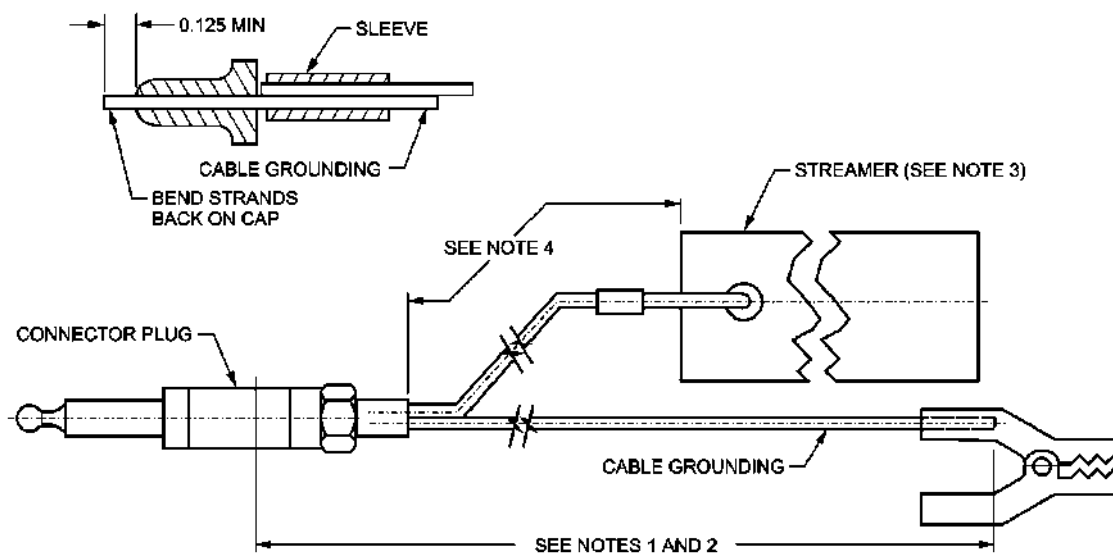
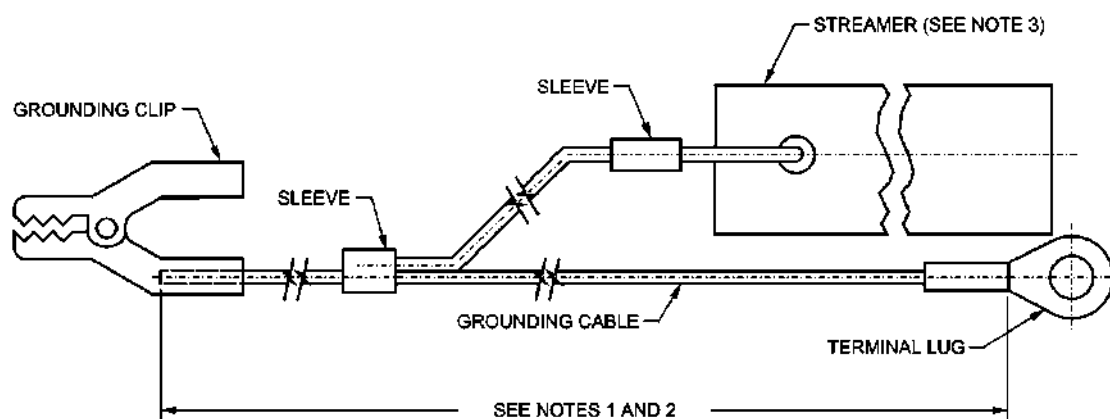
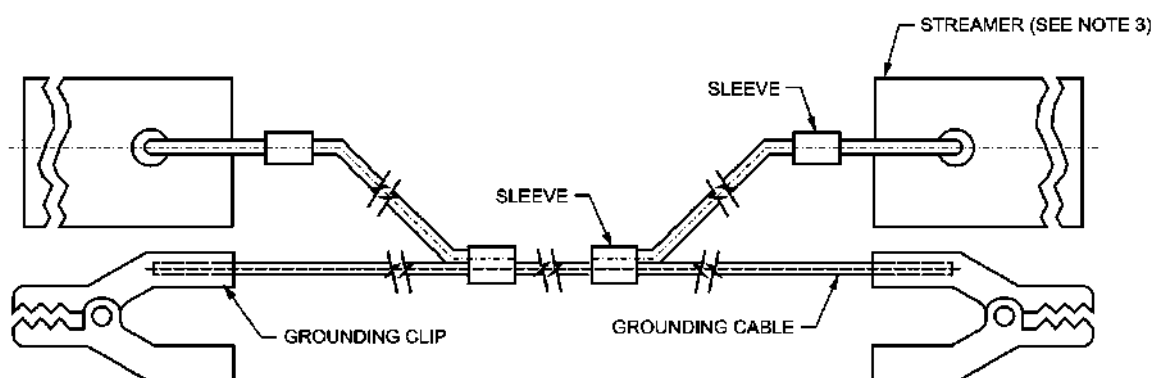

Figure 14-5 Safety Interconnection Lead (Configuration 2)
Figure 14-6 Safety Interconnection Lead (Configuration 3)
Figure 14-7 Safety Interconnection Lead (Configuration 4)
25. Any one of the configurations detailed in Figure 14-4, Figure 14-5, Figure 14-6 or Figure 14-7 may be used to earth the aircraft.
38. GSE used for dispensing fluids, (gases and liquids) except engine and hydraulic oil replenishing dollies, is to be fitted with interconnection hardware as detailed in Figure 14-4, Figure 14-5, Figure 14-6 or Figure 14-7. Specific interconnection hardware requirements for GSE dispensing flammable and non-flammable fluids are as follows:
43. Safety interconnection leads used on aircraft and GSE should to conform to one of the configurations detailed in Figure 14-4, Figure 14-5, Figure 14-6 and
Figure 14-7. Four configurations are provided to enable companies to utilise the type most appropriate for local requirements. In some cases fitment of streamers to fuel tanker interconnection leads may not be appropriate. Accordingly, the fitment of streamers to fuel tanker safety interconnection leads is left to the discretion of individual companies.